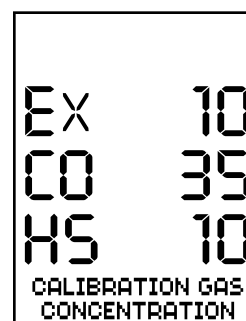

Fig. 13
The Test Gas Concentration Setting can be set by pressing the PEAKS/NO button while the Test Gas Concentration Setting is being displayed during warm-up (Fig. 13). To skip this step, either press the POWER/SELECT button or wait 5 seconds. This can be changed to match your test gas if it is not the same concentration as the 3M Standard Four Gas Mixture Calibration Gas Concentration of 35 ppm CO, 10 ppm H2S, 10% LEL (Methane), 18% Oxygen, balance Nitrogen. Use the arrow buttons to adjust the highlighted digit or the POWER/SELECT button to advance to the next digit. The allowable range for the Test Gas Concentration is: Carbon Monoxide (CO) – 25 to 200 ppm, Hydrogen Sulfide (H2S) – 10 to 100 ppm and Combustible Gas (EX) – 10% to 50% LEL. If the password protection has been set, you will be required to enter the password in order to change the Test Gas Concentration Setting.